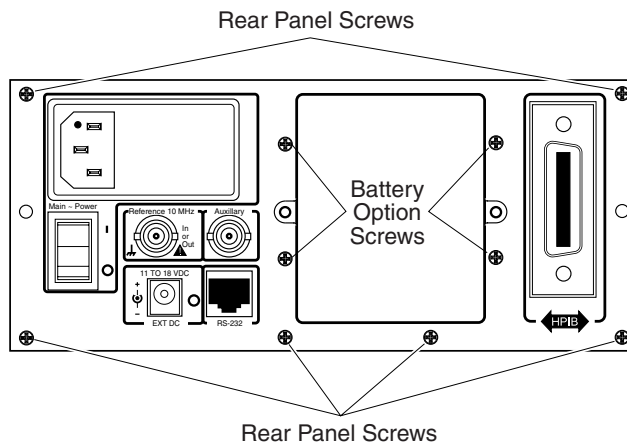

Figure 3-11. Rear Panel Assembly Screws
- 4 If the Battery Option is installed, remove the four 4-40 x 3/16-inch self-locking flathead machine screws that attach the rear panel assembly to the Battery Option chassis as shown in Figure 3-11 (two screws on each side of the opening, and two more screws at the bottom of the opening).
- 5 Remove the six 4-40 x 3/16-inch self-locking flathead machine screws that attach the rear panel assembly to the chassis (see Figure 3-11).